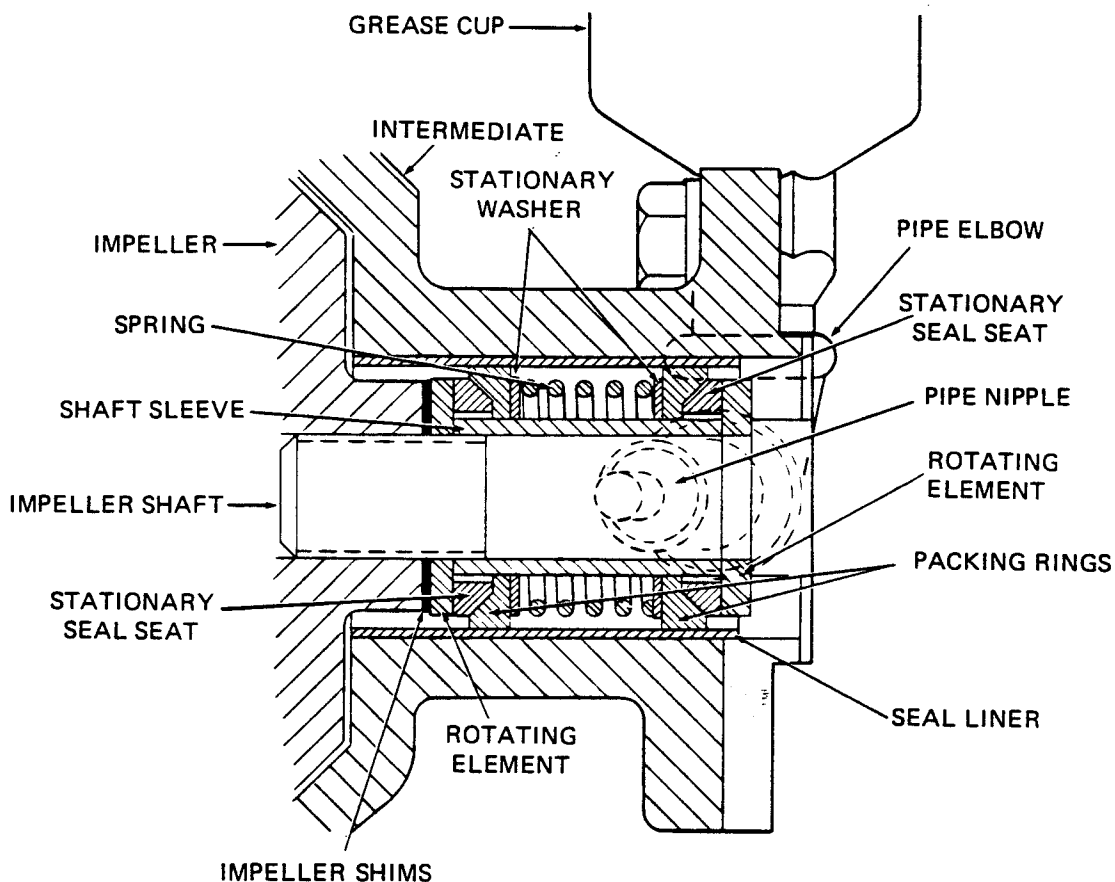

Figure 3. GS625 Seal Assembly
To ease installation of the seal, lubricate the packing rings and seal liner (5) with water or a very **small** amount of oil, and apply a drop of light lubricating oil on the finished faces. Assemble the seal as follows, (see Figure 3).